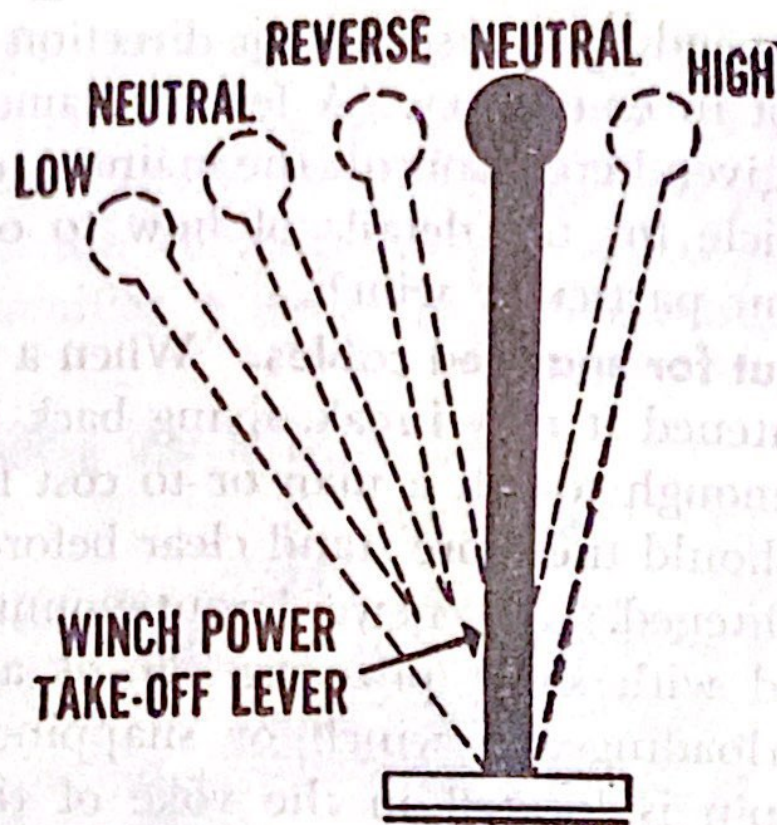

Figure 27. Winch control lever in cab.
c. Tips on winch operation. (1) Always depress the clutch pedal of the vehicle (disengage the clutch) before changing gears in the winch power take-off. Figure 27 shows the positions of the power take-off lever for dif-